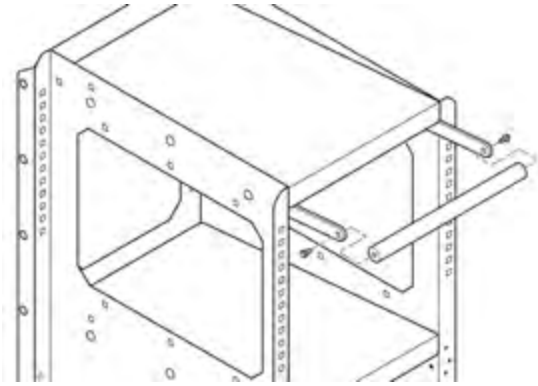

Figure 4-5
5. Using two M8 x 20 Hex Flange Bolts (item #24) attach the Handle (item #31) to the Handle Mounts as shown in Figure 4-5. **Fully tighten these two bolts at this time.**